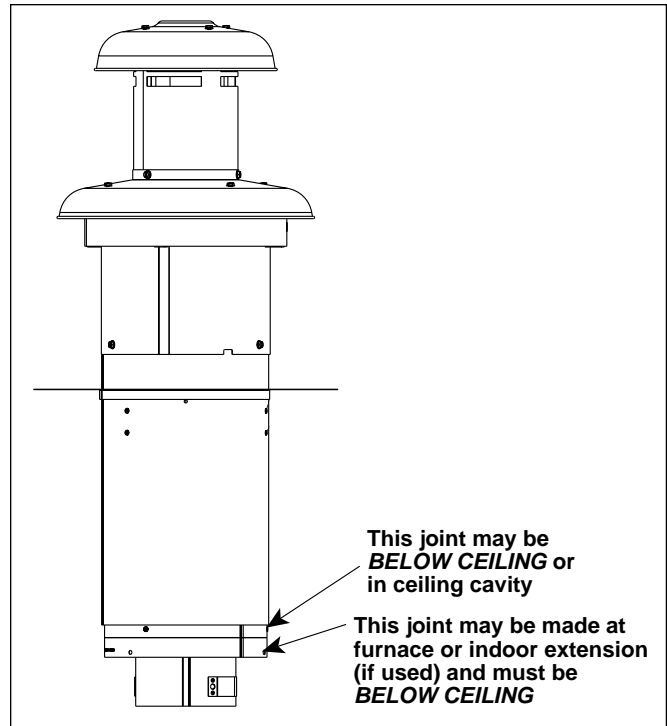

Figure 4.
3. **CONNECT ROOF JACK ASSEMBLY TO FURNACE.** Insert the telescoping Roof Jack assembly through the opening cut in the roof. Engage the flue pipe and the flue collar of the furnace. Connect the combustion air pipe to the furnace collar with a sheet metal screw. The connection of the combustion air pipe to the furnace should be made before the flashing is secured to the roof to maintain alignment to the roof jack and the furnace connections, see Figure 4.